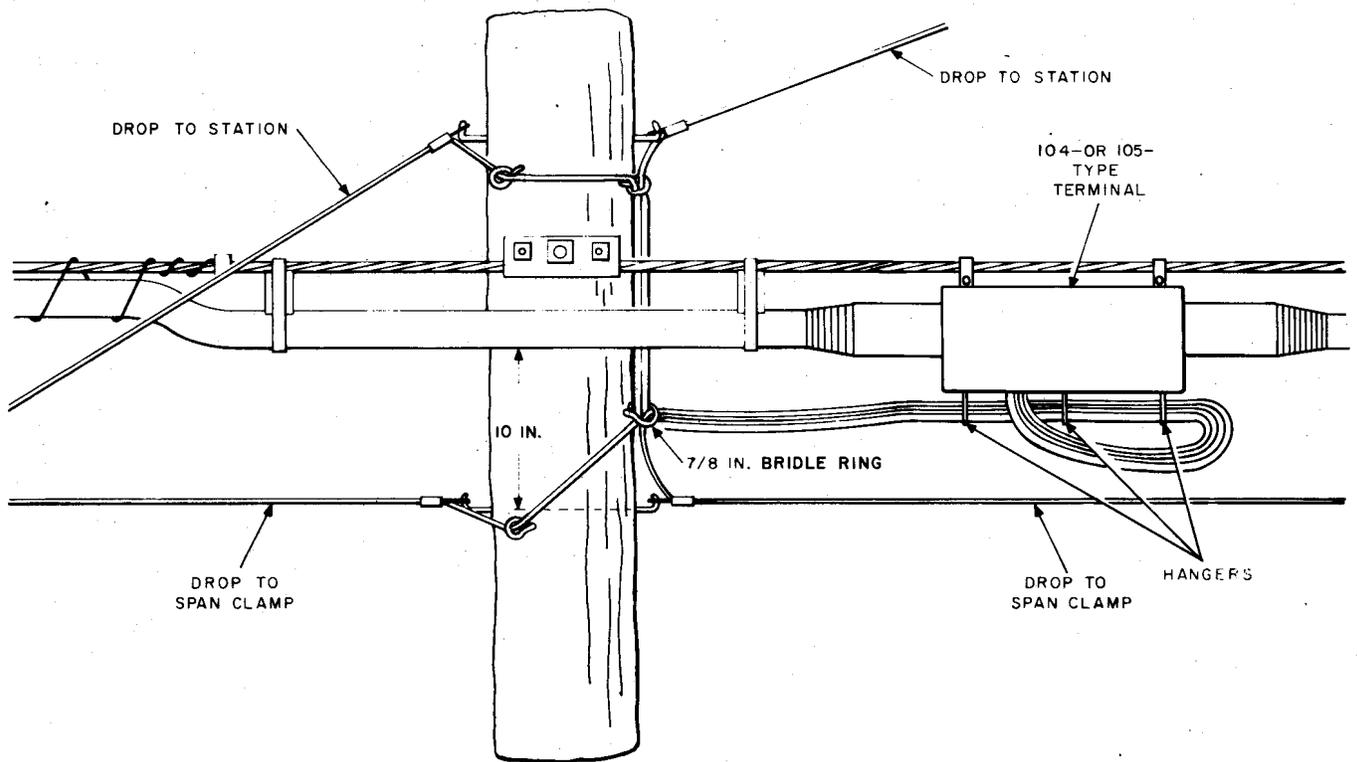

Fig. 5—Running Drop Wires To 104- or 105-Type Terminal at Pole
3.10 Refer to Fig. 5, 6, and 7 for typical arrangements of drop wires at 104- or 105-type cable terminals on aerial cable.